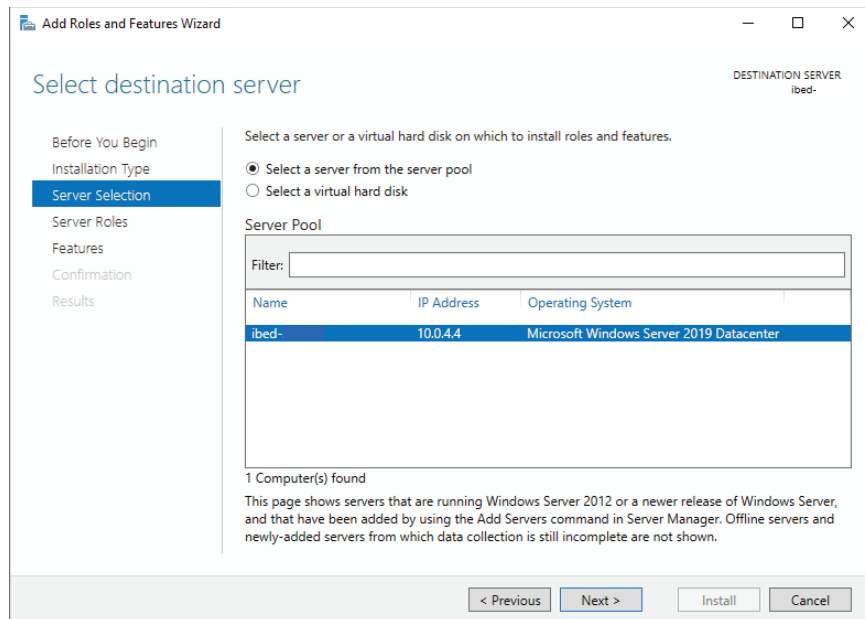

Figure 16 – Server Selection
17. In the **Select destination server**, select **Select a server from the server pool**. Verify that the server is correct in the **Server Pool** box. Select **Next** (Figure 16).